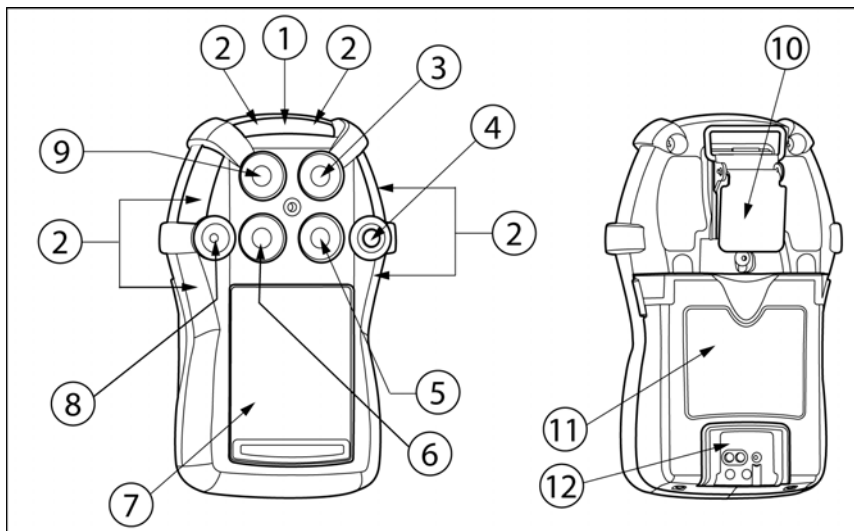

Figure 1. Parts of the GasAlertQuattro
- Figure 1, and Table 4, describes the detector's components.